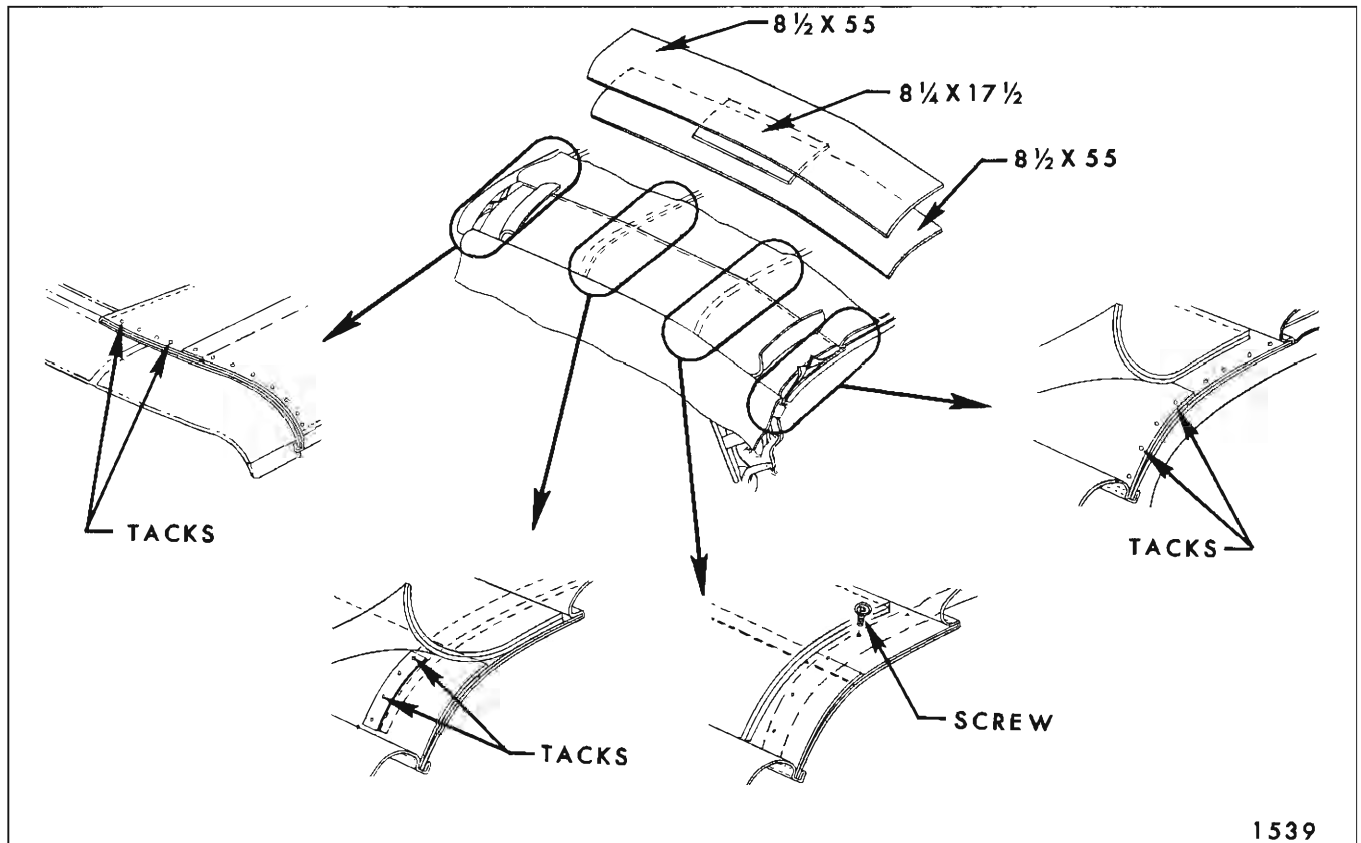

Fig. 1-I-12—Side Stay Pad Installation
pre-set spacer sticks to shortest length and install between center and rear roof bow (Fig. 1I19). Adjust sticks so that dimension "X" in Figure 1I19 (measured along spacer stick from front upper rolled edge of rear roof bow to center of center bow) is 14-7/8". Tie or tape rear bow to rear side roof rails.
2. Tack side stay pads in conventional manner to rear roof bow and stay tack pads to front roof rail. Make sure inboard edge of pad is properly aligned within depressions in bow and rail. Stay tack pad to front bow. Install pad to center bow with screws. Make sure inboard edge of pad is properly aligned within depression in bow. Install stay pad wadding in conventional manner using an approved trim cement. (See Fig. 1I12 for 16-25-26-35-36-45-46000 Series. See Fig. 1I13 for 38-48-68000 Series).